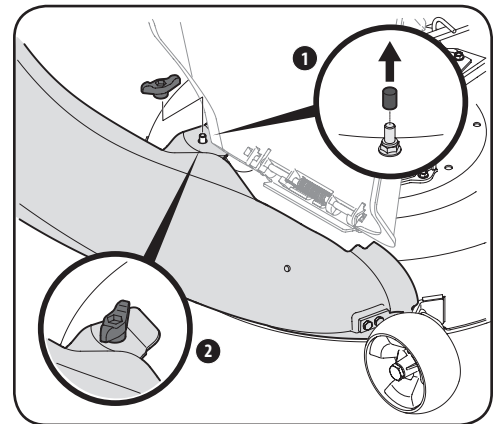

Figure 4-21
- Secure the chute elbow to the deck using a wing knob (720-04122) from hardware pack 689-00312. See Figure 4-21.
NOTE: If present, remove the protective cap off of the mounting stud on the mowing deck as shown in the upper inset of Figure 4-21.